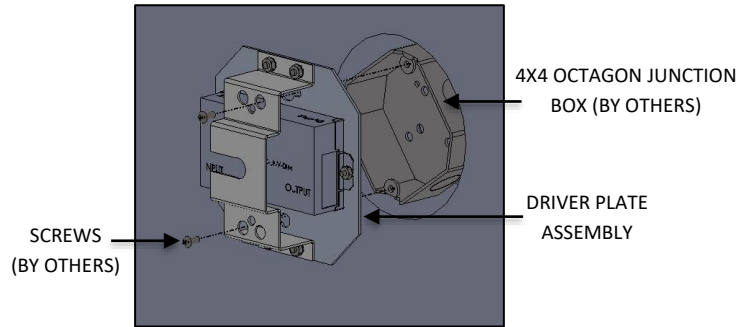

FIG. 9 – DRIVER PLATE INSTALLATION
3. Attach DRIVER PLATE ASSEMBLY with SCREWS (by others) to JUNCTION BOX (by other) as shown below in FIG. 9.